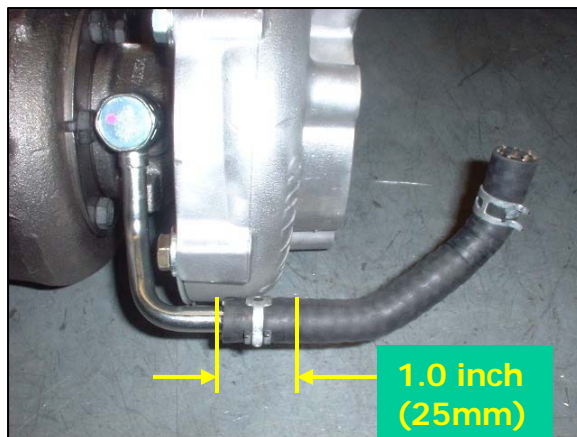

Fig. 26
30. Make note of the orientation of the short hard water line (closest to engine block) on the OE turbocharger. Remove the water line, its banjo bolt and crush washers. Install the **new** short water line (supplied in kit) on the Garrett turbo, keeping the orientation identical to OE. Use the OE banjo bolt and 2 new 14mm copper crush washers supplied with the kit. Torque the banjo bolt to 26-36 lb-ft (35-49 N-m). Install the rubber water hose on the hard line to a depth of 1.0 inch (25 mm) in orientation shown. See figures 26 and 27 (22mm socket, pliers).